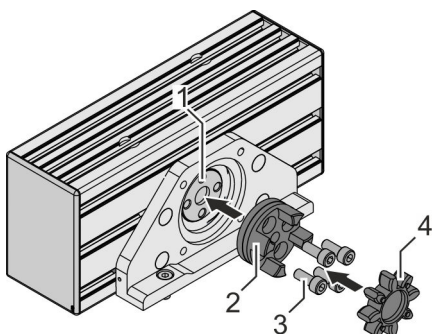
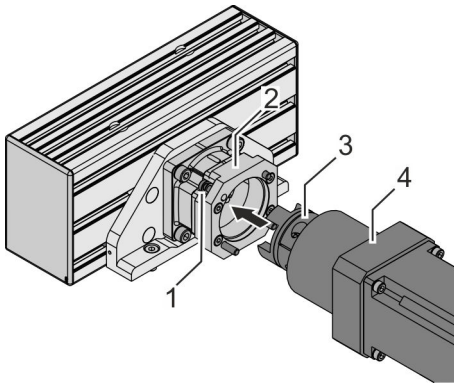

Fig. 31: Assembling the screw-in hub
Fig. 35: Assembling the motor
1. → Place the coupling's screw-in hub (Fig. 31/2) on the timing belt shaft (Fig. 31/1).
2. → Tighten 4 screws (Fig. 31/3) alternating diagonally.
3. ➤ Insert the gear ring (Fig. 31/4) into the screw-in hub (Fig. 31/2).
- 10.** Place the motor (Fig. 35/4) on the motor plate (Fig. 35/2).
Ensure that the clamping hub (Fig. 35/3) on the motor shaft engages correctly in the screw-in hub (Fig. 31/2) on the timing belt shaft.
- 11.** Tighten 4 screws (Fig. 35/1) alternating diagonally: